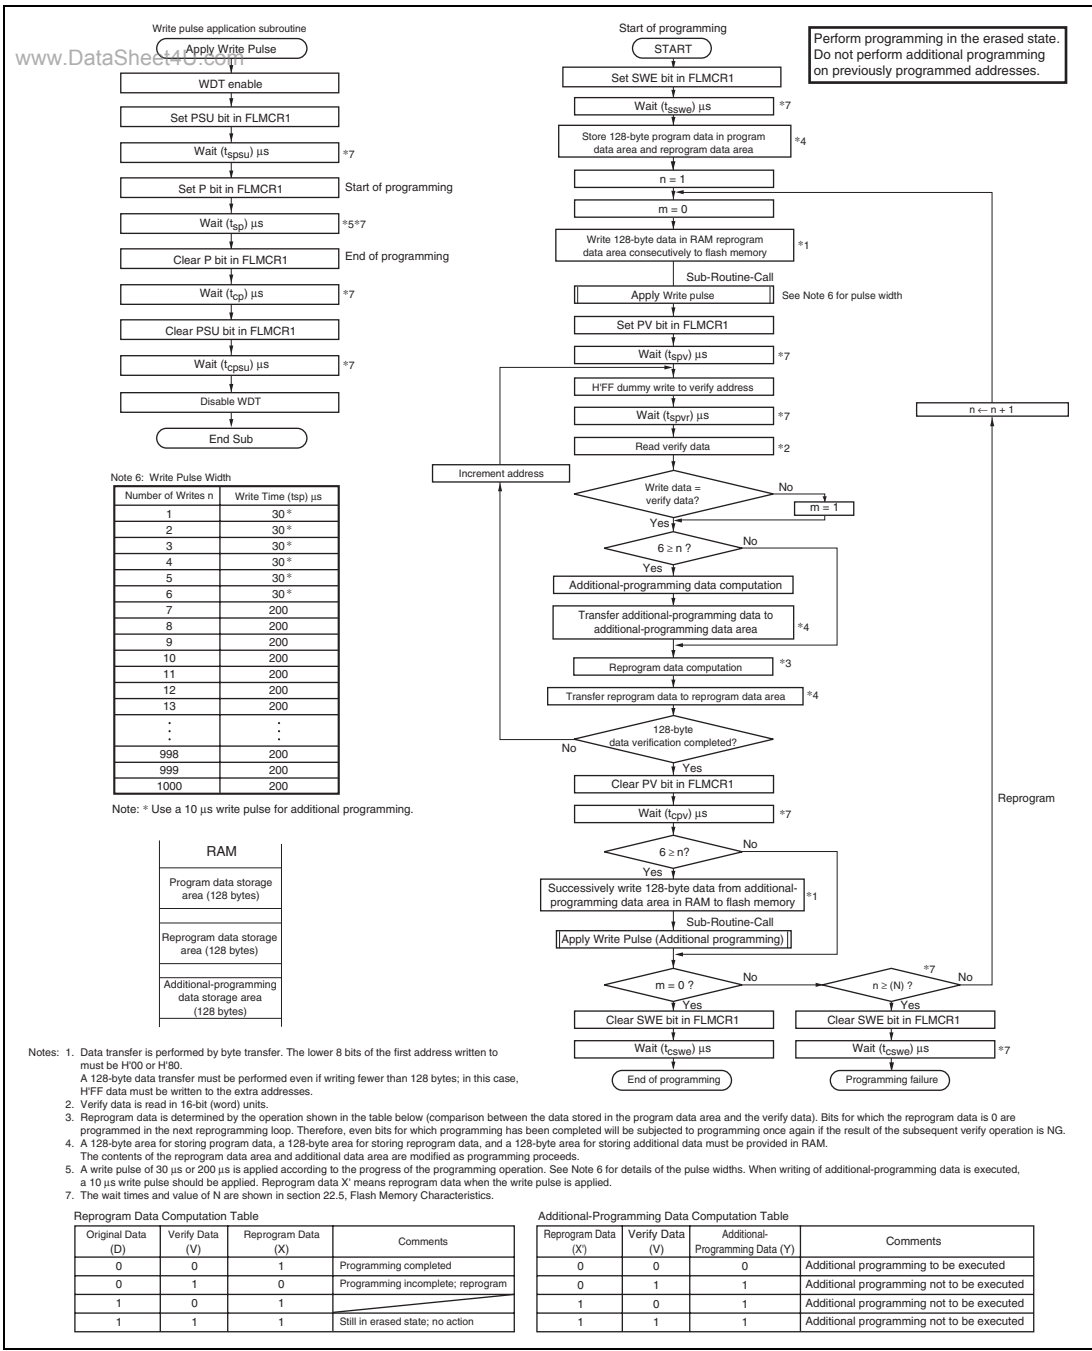

Figure 18.9 Program/Program-Verify Flowchart
When writing data or programs to the flash memory, the program/program-verify flowchart shown in figure 18.9 should be followed. Performing programming operations according to this flowchart will enable data or programs to be written to the flash memory without subjecting the chip to voltage stress or sacrificing program data reliability.
3. Prepare the following data storage areas in RAM: A 128-byte programming data area, a 128-byte reprogramming data area, and a 128-byte additional-programming data area. Perform reprogramming data computation and additional programming data computation according to figure 18.9.
5. The time during which the P1 bit is set to 1 is the programming time. Figure 18.9 shows the allowable programming times.